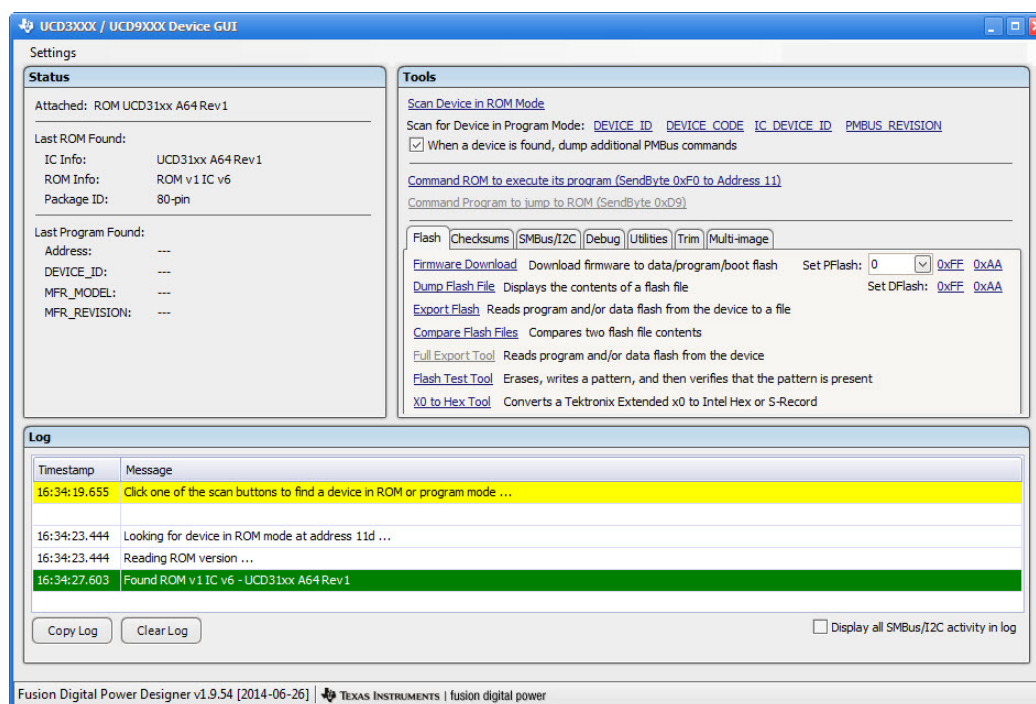

Figure 5. UCD3xxx/UCD9xxx Device GUI
3. Launch the UCD3xxx/UCD9xxx device GUI following the steps described in Section 6.1.3. A window shown in Figure 5 appears.